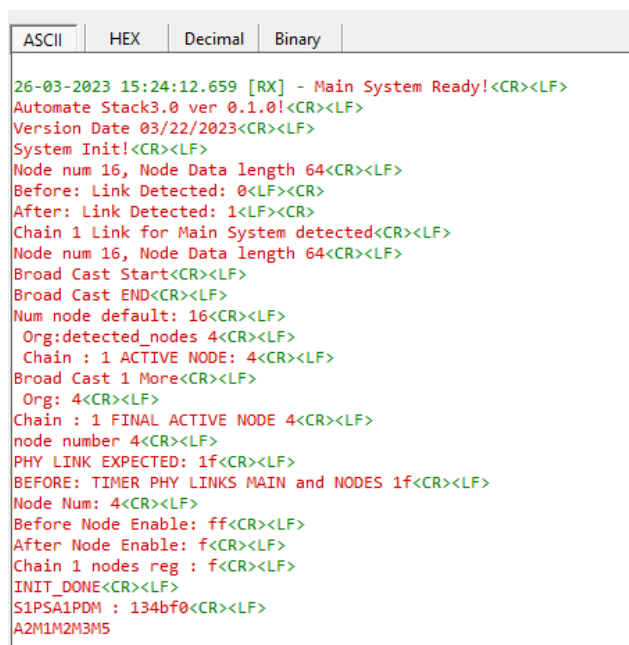

Figure F.15. ASCII Print Statements
h. In Docklight, select the **ASCII** tab. Wait 60 seconds and check that the print statements are valid, as shown in Figure F.15.